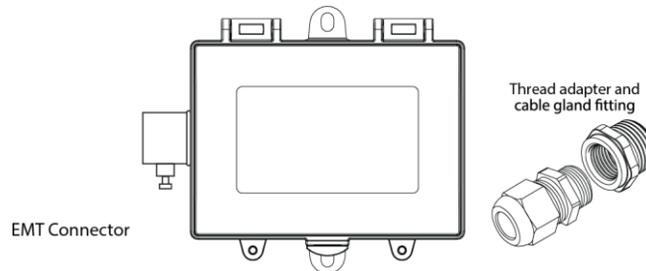

Figure 4: Insert conduit or cable gland.
3. A 21 mm (0.8125") hole is provided for connection of either a 1/2" conduit connector or a cable gland style connector. Insert the conduit or cable gland connector through the hole and securely fasten using a locknut as shown in Figure 4.